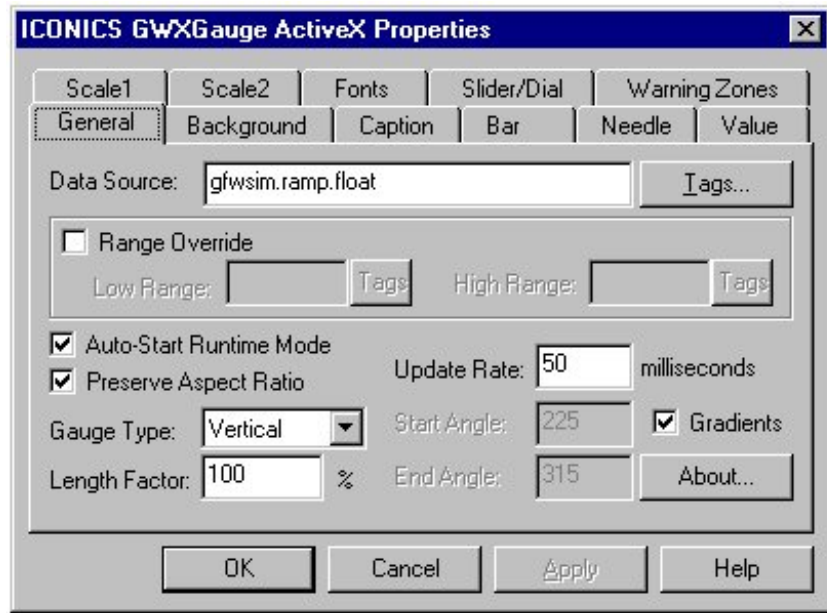

Figure 15-15: GWXGauge ActiveX Properties Dialog Box: General Tab
1. Double-click on the GWXGauge ActiveX control. The GWXGauge ActiveX Properties dialog box appears (Figure 15-15).